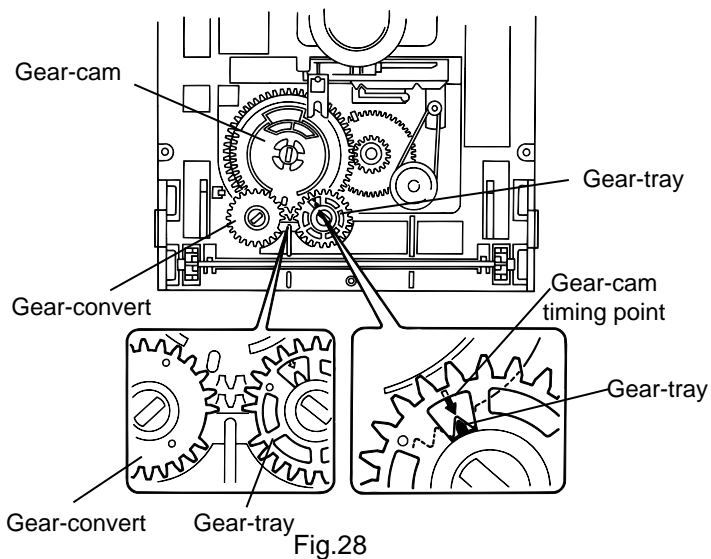

Fig.28
■Reinstall the CD tray (See Fig.28 to 29)